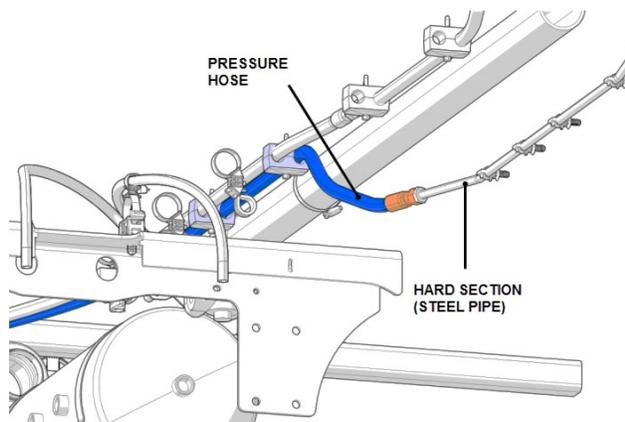

FIGURE 5
- In the rear wheel well, it is located on curbside. It connects to a hard section (metal pipe) from the steering pump (fig. 5). Search above the rear R.H. side air spring of the drive axle